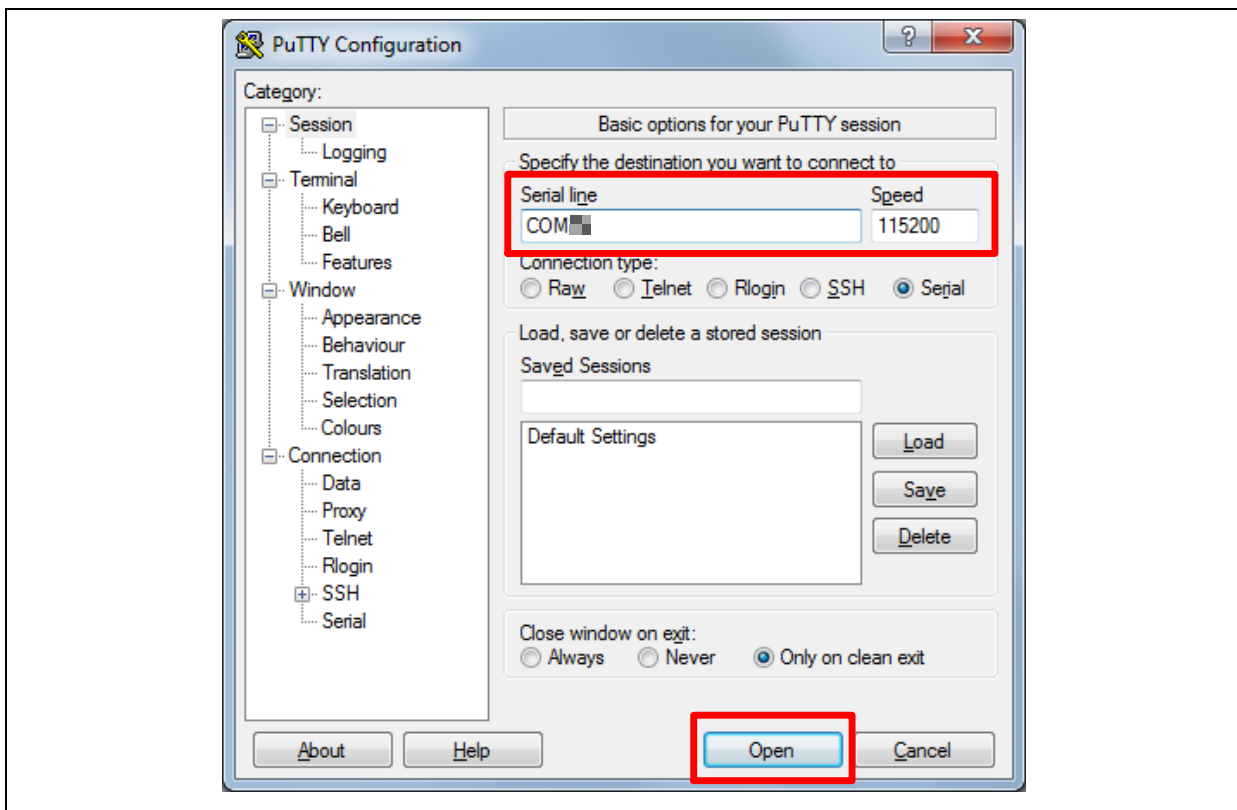

Figure 3-6 PuTTY Session Setting
- 4. Open a serial port terminal, PuTTY for example, to print out debug message. Set the speed to 115200. Figure 3-6 presents the PuTTY session setting.